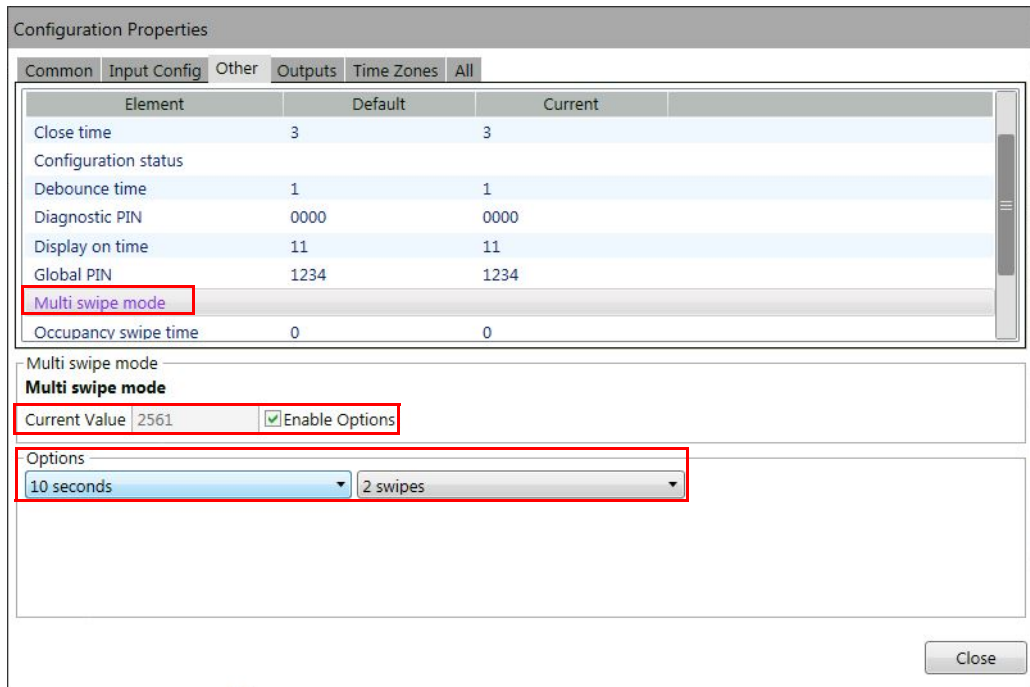

Figure 53 Configuring multi-swipe access
6. Use the drop-down **Options** lists to configure **Multi swipe mode**. In *Figure 53 Configuring multi-swipe access* the options are configured to 10 seconds and 2 swipes.